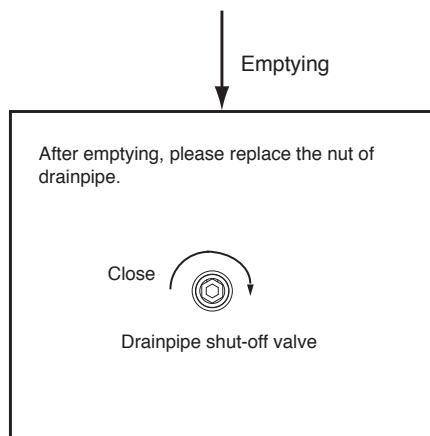

Fig.5-2
- Emptying: If the unit needs cleaning, moving etc, the tank should be emptied. Method: See Fig.5-2: